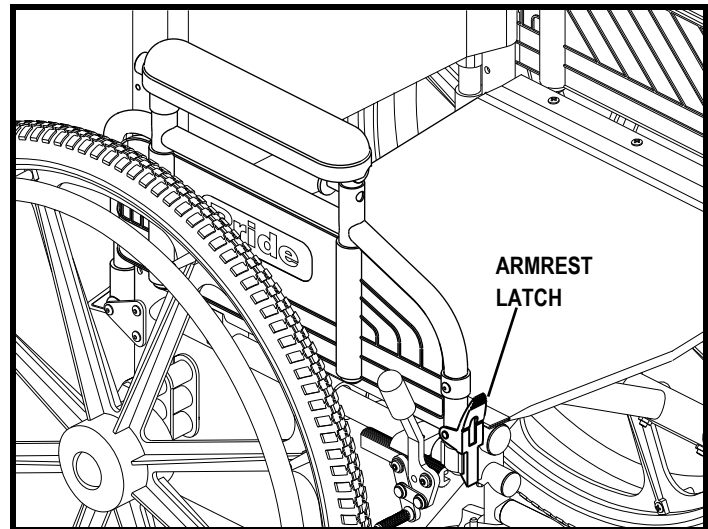

Figure 22. Flip-back Armrests
1. Squeeze the armrest latch to release the armrest. See **figure 22**.